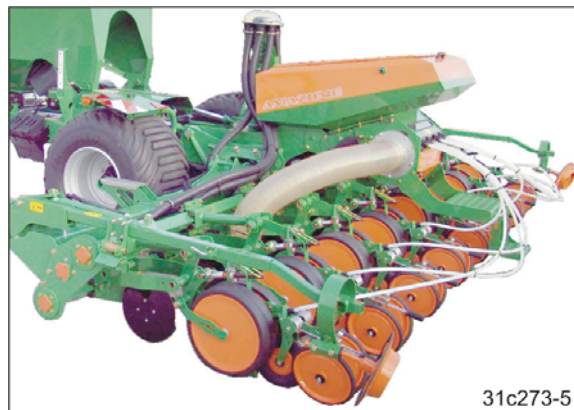

Fig. 214
- 8.2 Actuate the *yellow* tractor control unit until the implement is unfolded into working position (see Fig. 214).